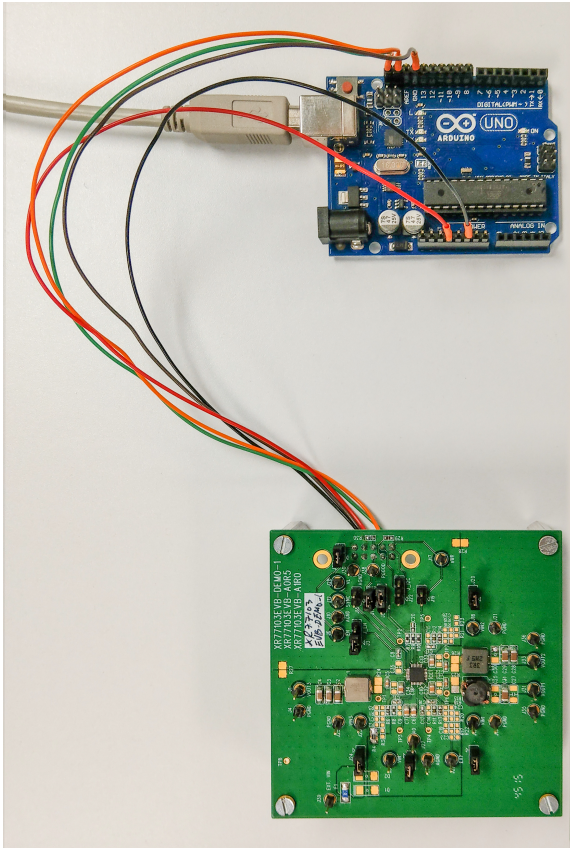
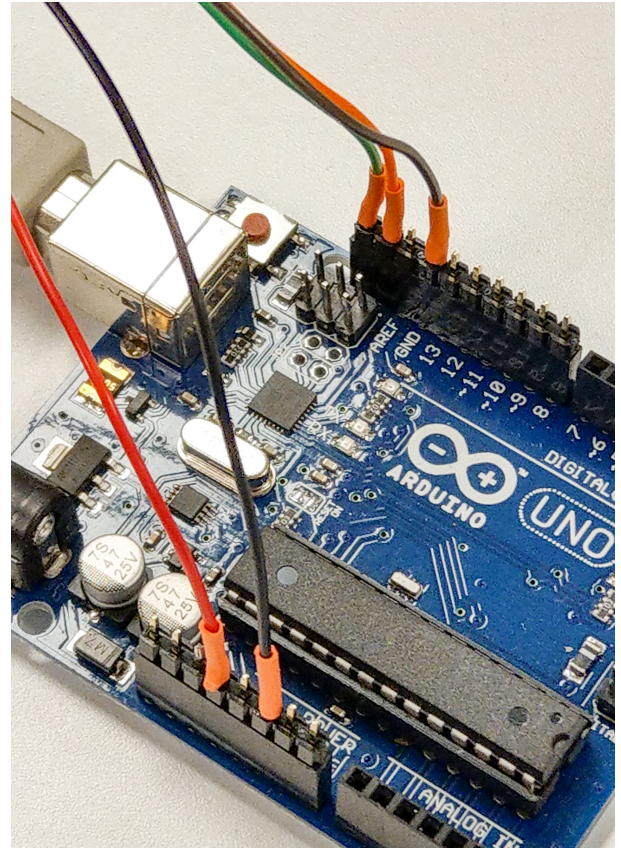
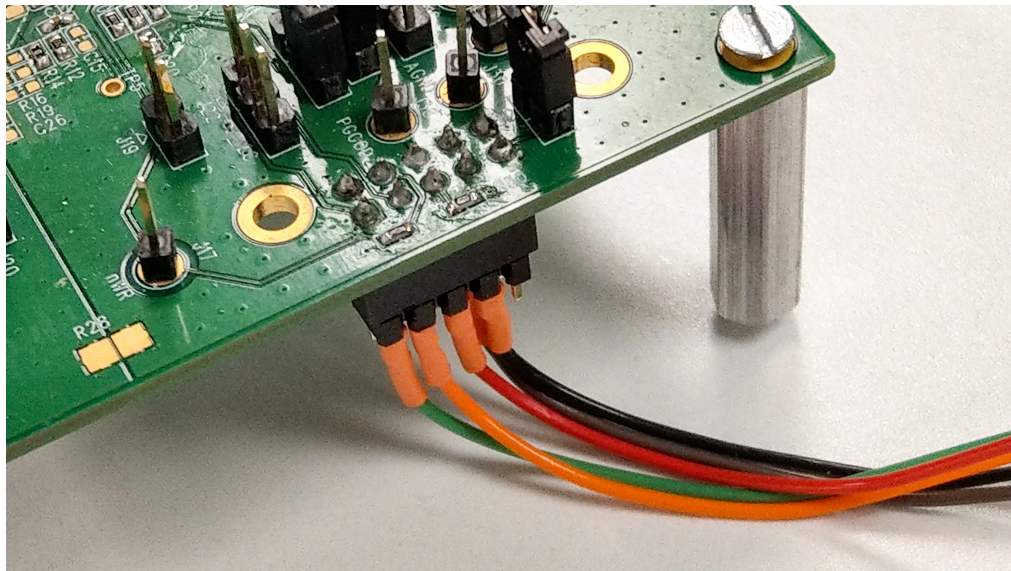

Figure 2: Connecting the XR77103 Demo EVK and Arduino Uno
Figure 3: Arduino Uno Connections
Figure 4: XR77103 Demo EVK Connections
4. Connect the XR77103EVB-DEMO-1 evaluation board to an Arduino Uno microcontroller board as shown in Figure 2, Figure 3, and Figure 4. Use a USB cable to connect the computer (type A) to the Arduino Uno board (type B).